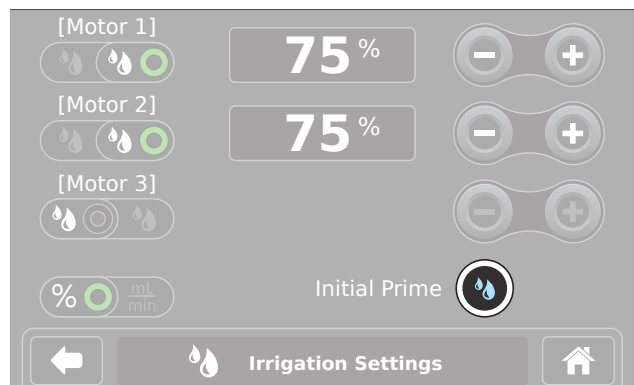

Figure 19 – Irrigation Settings (Initial Prime)
2. Touch  (Initial Prime) to prime the irrigation cassette (Figure 19).